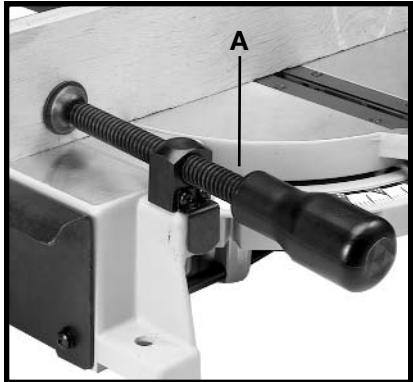

Fig. 9
Use the supplied clamp (A) Fig. 9, especially with short workpieces. Never allow your hands to be in the "Hazard Zone". Two holes are provided in the base of the miter saw on either side, enabling you to use the clamp (A) Fig. 9 on the right or left hand side of the saw blade.